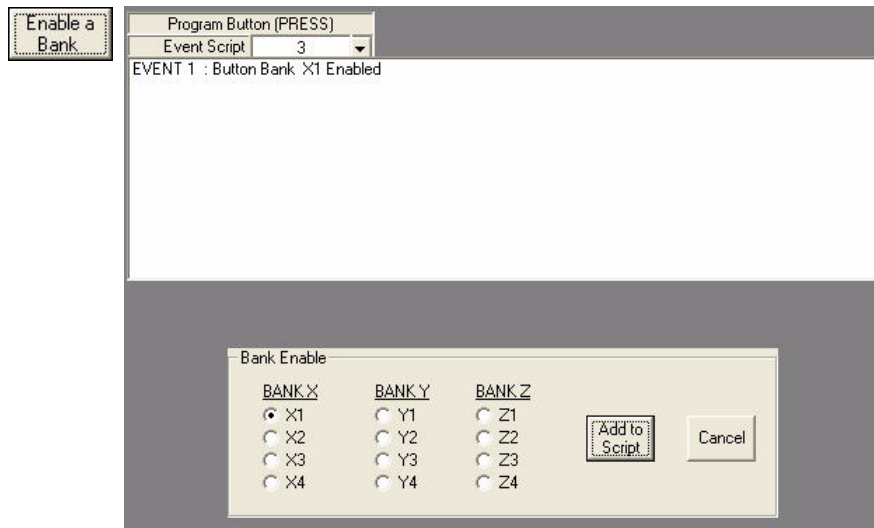

FIG. 105 Button 3 - Button Bank X1 Enabled
14. Click **Enable a Bank** in the Command Bar; select **X1** and **Add to Script** (FIG. 105).